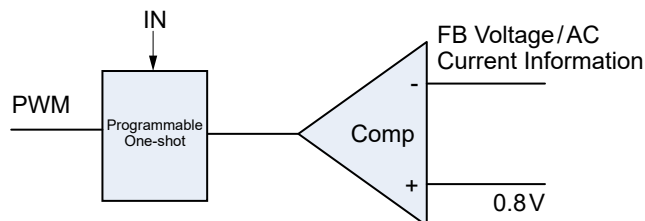

Figure 3. Simplified Control Schematic of AOZ22401QI
The control algorithm of AOZ22401QI is constant-on-time PWM Control with input feed-forward. The simplified control schematic is shown in Figure 3. The high-side switch on-time is determined solely by a one-shot whose pulse width can be programmed by one external resistor and is inversely proportional to input voltage (IN). The one-shot is triggered when the internal 0.8V is higher than the combined information of FB voltage and the AC current information of inductor, which is processed and obtained through the sensed lower-side MOSFET current once it turns on. The added AC current information can help the stability of constant-on time control even with pure ceramic output capacitors, which have very low ESR. The AC current information has no DC offset, which does not cause offset with output load change, which is fundamentally different from other V^2 constant-on-time control schemes.